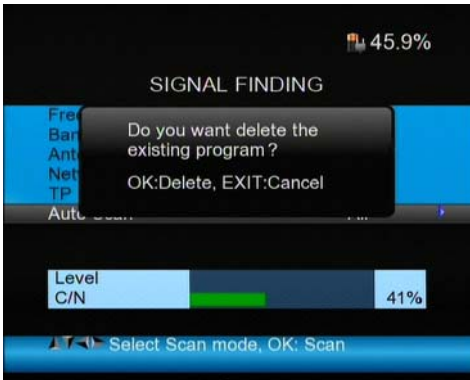

Figure6. Auto Scan confirm message
- (5) Press <Up/Down> button to Auto Scan.
- (6) Press <Left/Right> button to select Auto Scan mode.
- (7) Press <OK> button, one message box will display, see figure 6.